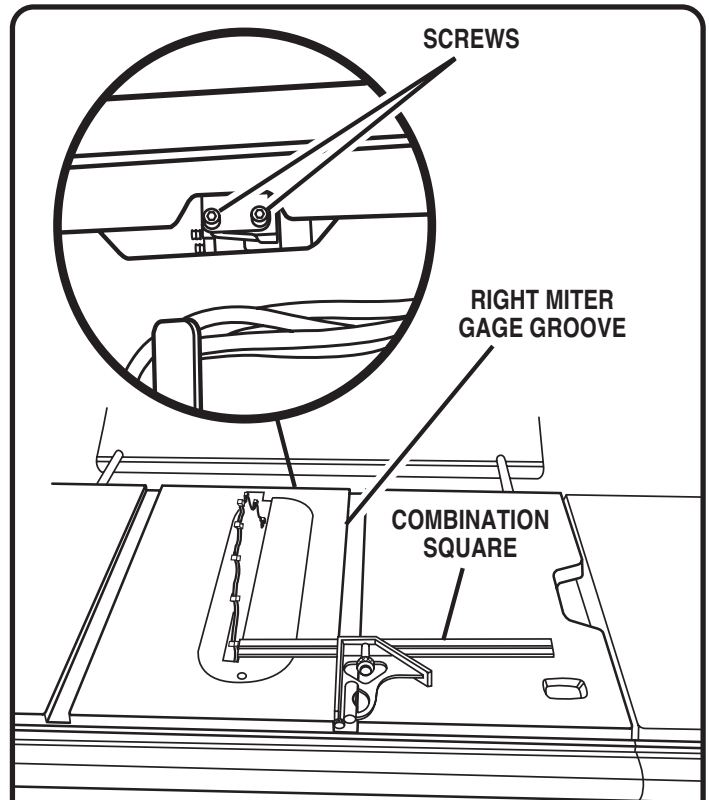

Fig. 28
See Figures 28 - 30 .
- Mark beside one of the blade teeth at the front of the blade. Place the body of a combination square against the miter gage groove as shown in figure 28. Measure the distance to the right gage groove.